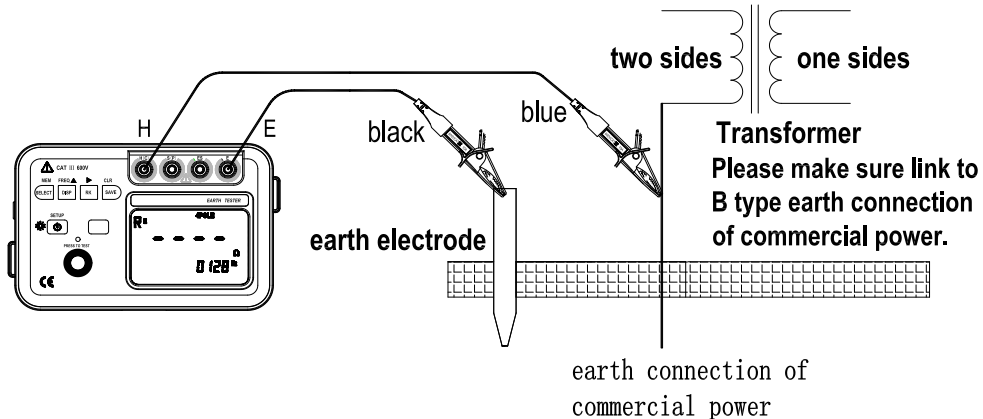

Figure 11
- (1) Press  key to select measurement method: 2-Pole (the Main Screen displays 2POLE in the upper part);
- (2) Press  key to select measurement frequency (display in auxiliary display part);
- (3) Residual resistance of Rk
① Firmly insert each plug of 2 test leads (black and blue) to the corresponding terminals E and H on the instrument respectively;
② Engage 2 Alligator clips to short-circuit all of them;
③ Save the Rk values with reference to “the residual resistance on the Test Leads”.
- (4) Connection of Auxiliary Earth Spikes and Test Leads(See figure 11)